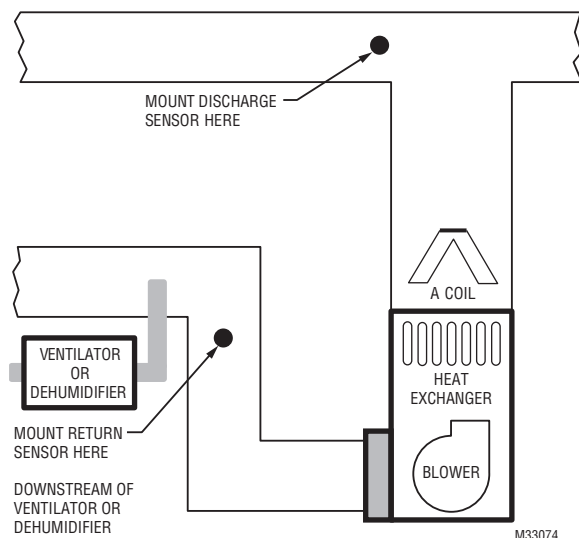

Fig. 8.
Refer to the guidelines below and Fig. 8–12 for mounting locations of the Discharge and Return Air Temperature Sensors.
1. Mount the Discharge Air Temperature Sensor on the supply duct in a location where the air is mixed well. Mount the Discharge Air Temperature Sensor out of sight of the A-Coil/Heat Exchanger when possible. See Fig. 8.
1. Install the Return Air Temperature Sensor on the return duct in a location where the air is mixed well. Mount the Return Air Temperature Sensor downstream of a Bypass Humidifier, Dehumidifier or Ventilator. See Fig. 8–12.